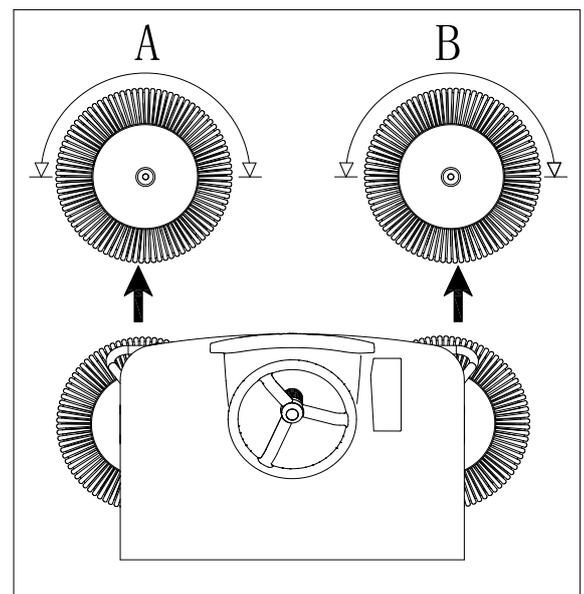
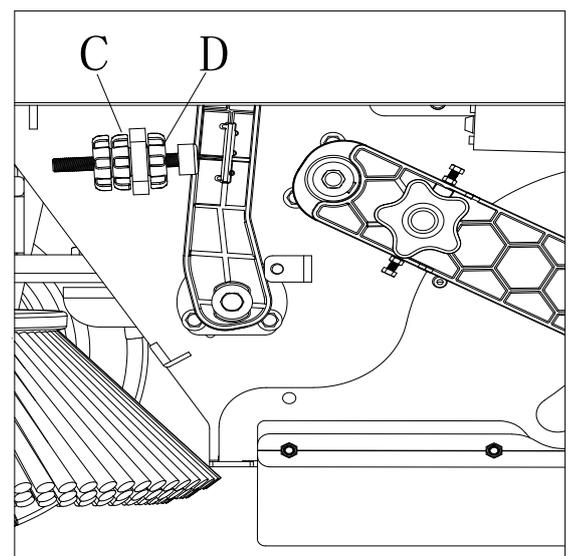

Figure 25
Figure 26
Check if the side broom print (A and B, Figure 25) matches the specifications (A and B, Figure 25).
4. First, unscrew the knob nut (D, Figure 26), then adjust the height of the side broom by turning the adjustment knob (C, Figure 26) until the side broom print matches the illustration (A and B, Figure 25). After adjustment, tighten the knob nut (D, Figure 26).